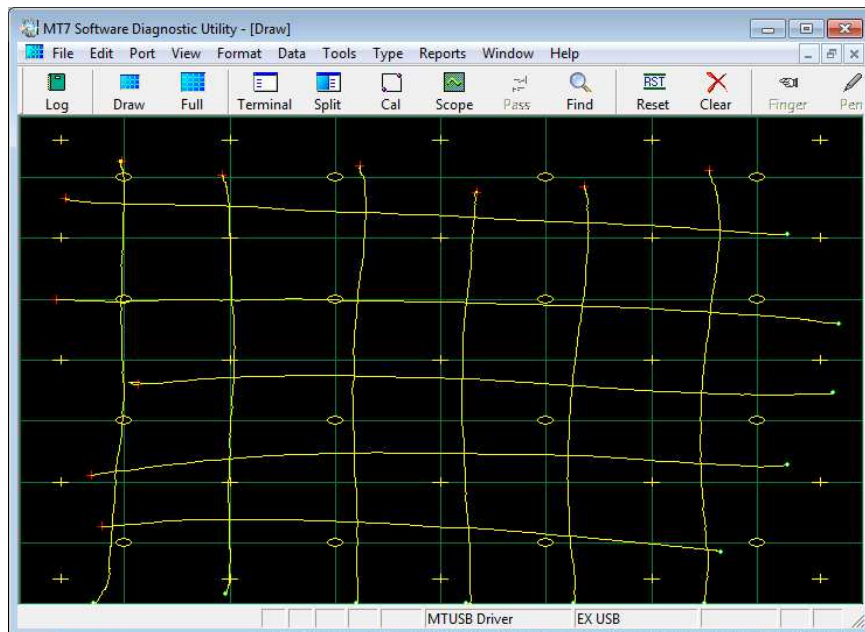
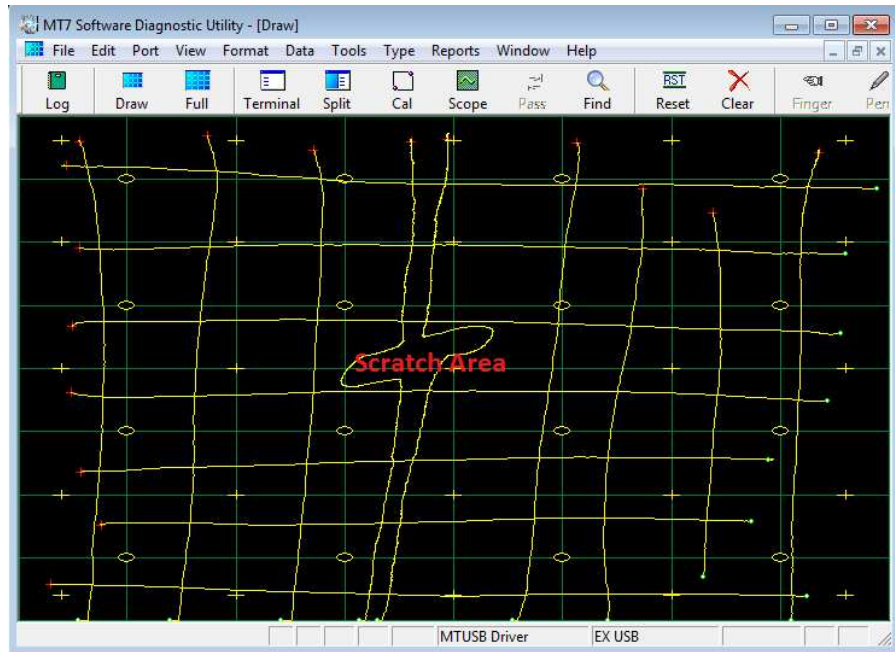

Figure 5 Full Draw Screen drawing vertical and horizontal lines
Figure 6 Full Draw Screen drawing vertical and horizontal lines with a scratch
6.2.4.2.2. To test for a deep scratch, simply draw vertical and horizontal lines throughout the touch screen, (See Figure 5). If there is a scratch the line draw will track around the scratch and appear as Figure 6.